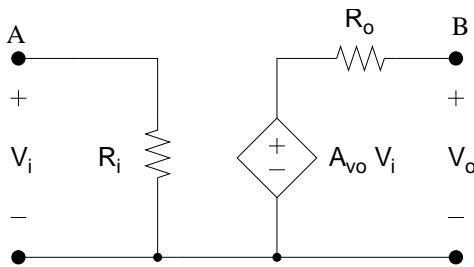
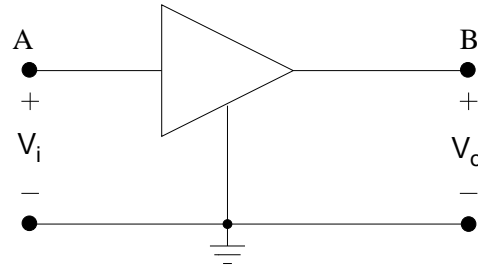
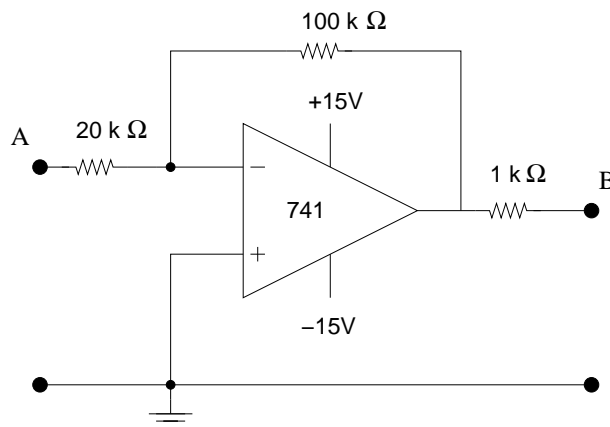
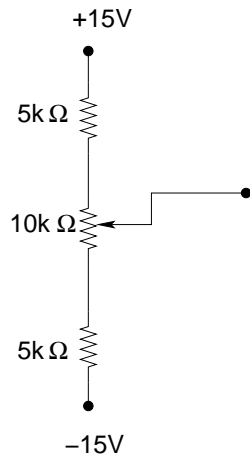

Figure 1.
Figure 2.
Figure 3.
Figure 4.
An amplifier can be represented in many different ways. Figure 1 shows a model for a voltage amplifier. The textbook shows similar models for current, transconductance and transresistance amplifiers. Figure 2 shows a simple block diagram of a generic amplifier. In this lab we will measure the characteristics of the simple voltage amplifier: the input resistance R_i , the output resistance R_o and the voltage gain A_{vo} .
We will use an op-amp in the circuit in Figure 3 to build a real amplifier, and measure the corresponding parameters of the voltage amplifier model. (Use a 741 or similar op-amp.) As in Figures 1 and 2, the input to our amplifier is at A and the output at B. If we can find the three values R_i , R_o , and A_{vo} we can use the model to accurately predict how the amplifier will work in a circuit. (From your knowledge of op amps, you should be able to determine R_i , R_o and A_{vo} from inspection of Figure 3. Do so as part of the prelab, and compare these values to the values you measure below.)
1. Build the circuit in Figure 3, and verify that it works. If you cannot remember the pinout of a 741 op-amp, look at its datasheet. (How did you verify its operation?)
- Connect the input of the amplifier to a variable voltage source as shown in Figure 4. Measure and plot V_B vs. V_A using a DVM for a sufficient number of voltages so that your plot is a nice curve. Be sure that your voltage range is sufficiently large that the amplifier saturates. The slope of the linear portion of the curve is the voltage gain A_{vo} . Compare this value to the predicted one for the circuit of Figure 3.
- Using the variable voltage source of Part 2(a) put a test resistor between the voltage source and the input (A).
- Compute R_i . How you do this should be easy if you look at the model of Figure 1.
- Compare R_i to the value you would expect from the circuit of Figure 3.
- Compare R_o to the value you would expect from the circuit of Figure 3.
1. Look up the data sheet for the LM741 and add the pin numbers to complete the schematic of Figure 3.
2. Determine the gain, the input resistance, and the output resistance of Figure 3.